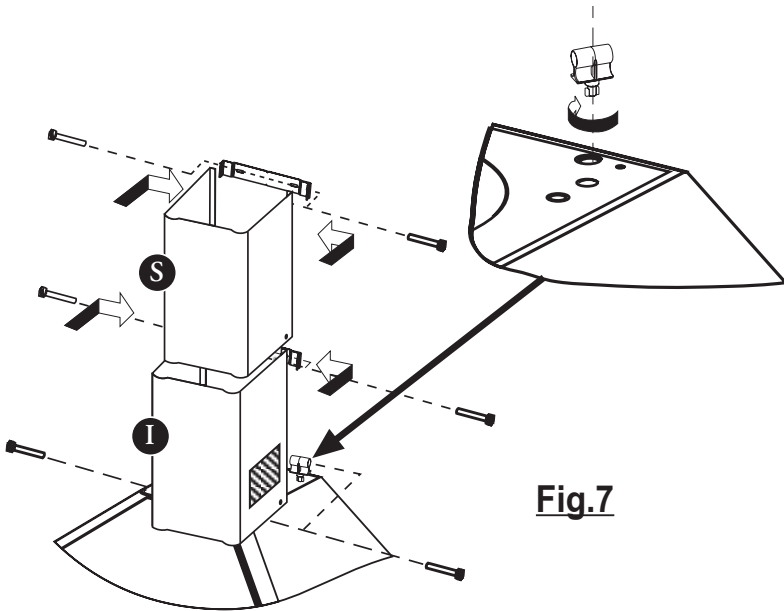

Fig.7
1. Fit the two plastic supports provided into the two holes on top of the canopy as illustrated in Fig. 7.
2. Fit the upper section (S) first. Expand the chimney slightly to allow it to be fitted over the brackets 2, and then secure the chimney stack to brackets using the four self tapping screws provided as illustrated in Fig. 7.
3. Fit the lower chimney section (I) by expanding the chimney slightly to allow it to be fitted over the brackets 1, and the upper chimney section and bracket 2 as illustrated in Fig. 7.
4. Secure the bottom of the chimney to the plastic supports using the self tapping screws provided as illustrated in Fig. 7.